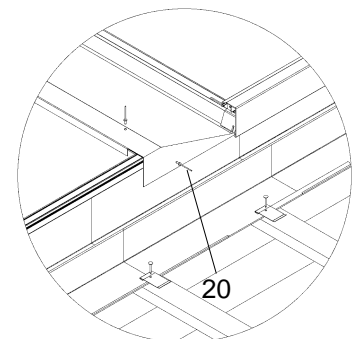

Fig. 7
- Clench every connection piece four times at the glass supporting profile. Additionally the left and right hand connection pieces have to be clenched laterally with the cover profile (fig. 7).